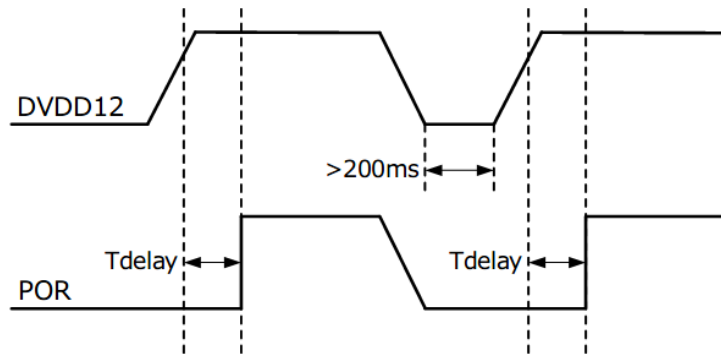

Figure 6-2 POR output waveform when DVDD12 sets OFF to ON
- If DVDD12 is set 1.2V -> 0V -> 1.2V, DVDD12, 0V period has to be kept over 200ms as shown on Figure 6-2.